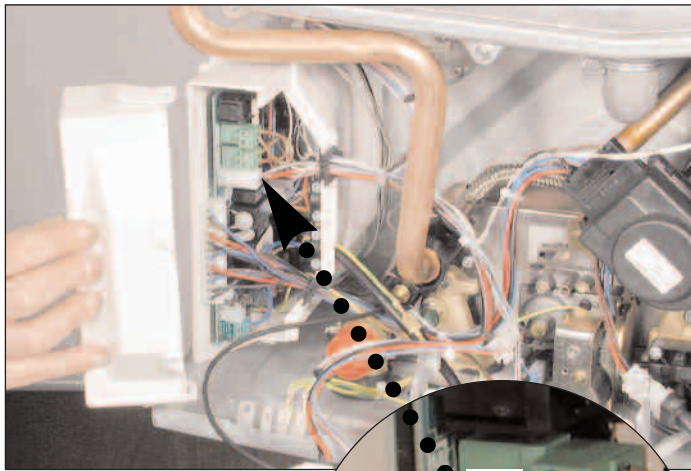
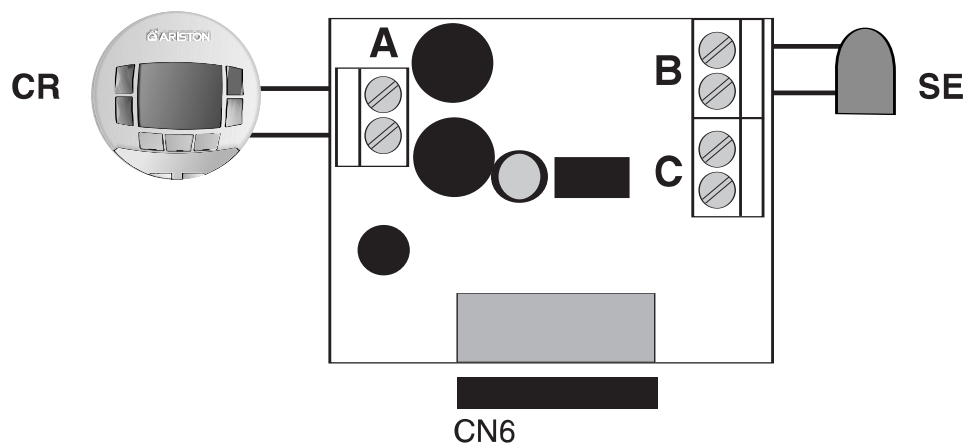

FIG. 2.31
FIG. 2.33
1. Remove the cover of the main PCB box (Fig 2.31).
- CN10 - Safety thermostat for underfloor heating (SP)
- CN 9 - Room Thermostat (TA)
- CN 6 - Interface PCB (Fig. 2.33)
The external sensor is supplied with the interface PCB (Fig. 2.33).
To connect the external sensor, plug the interface PCB into connector **CN6** on the main PCB (see Fig. 2.33).
To connect between the interface PCB and the external sensor, it will be necessary to use 2x 0.5mm² cable, connected to the two terminals on the external sensor and to Terminal B (Fig. 2.33) on the interface PCB.